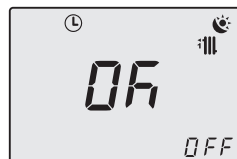

Fig. 2.23
Press key 20 briefly to save (Fig. 2.23).